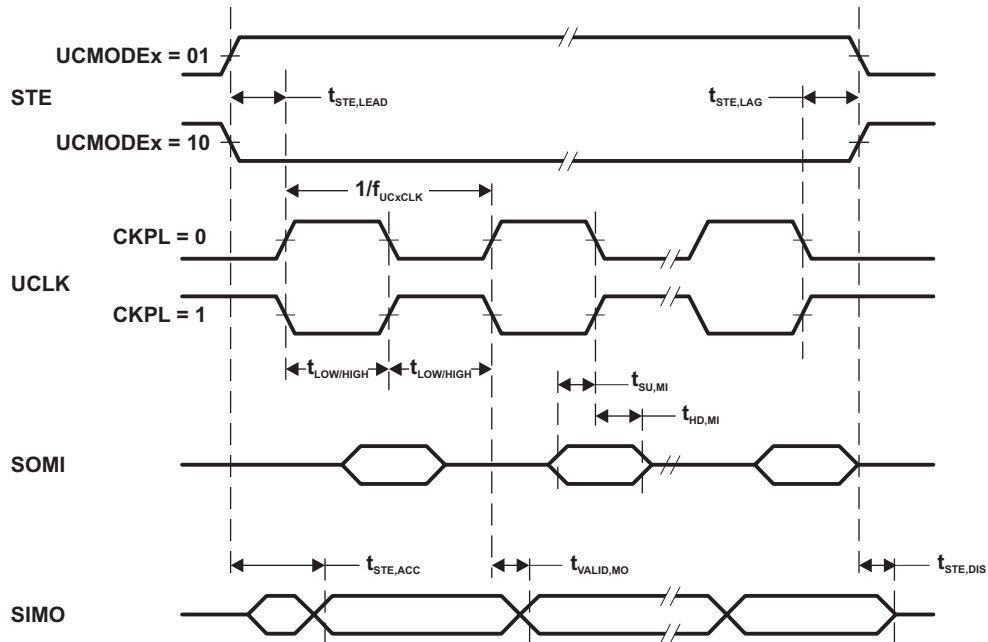
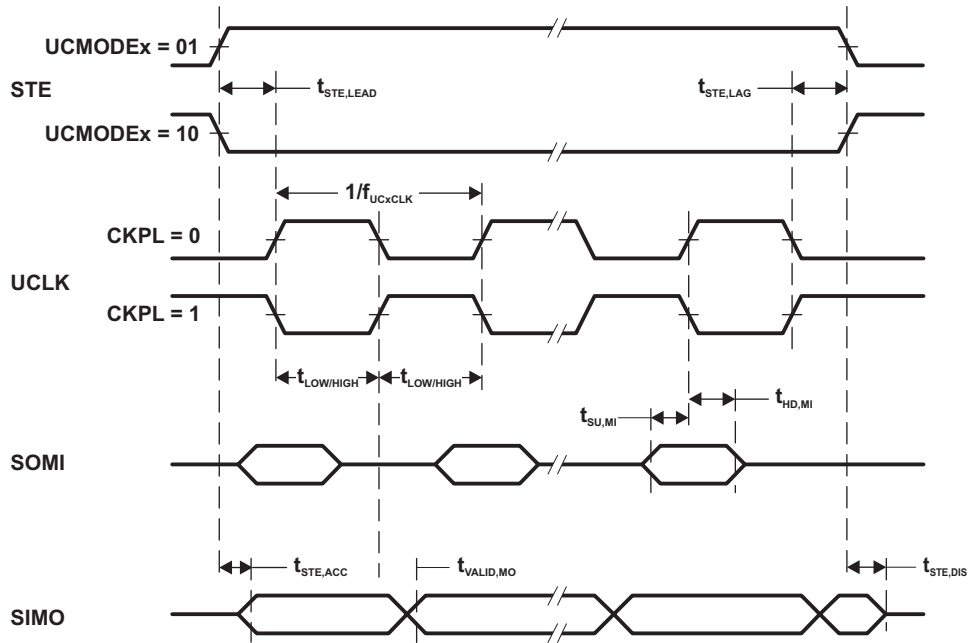

Figure 5. SPI Master Mode, CKPH = 0
Figure 6. SPI Master Mode, CKPH = 1
- (2) Specifies the time to drive the next valid data to the SIMO output after the output changing UCLK clock edge. See the timing diagrams in Figure 5 and Figure 6.
- (3) Specifies how long data on the SIMO output is valid after the output changing UCLK clock edge. Negative values indicate that the data on the SIMO output can become invalid before the output changing clock edge observed on UCLK. See the timing diagrams in Figure 5 and Figure 6.